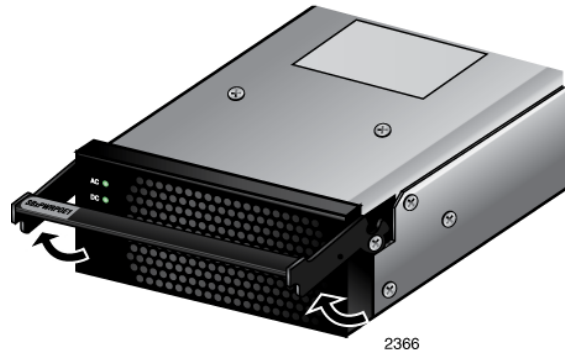

Figure 53. Unlocking the Handle on the AT-SBxPWRPOE1 Power Supply
4. Raise the locking handle on the AT-SBxPWRPOE1 Power Supply, as shown Figure 53 on page 118.